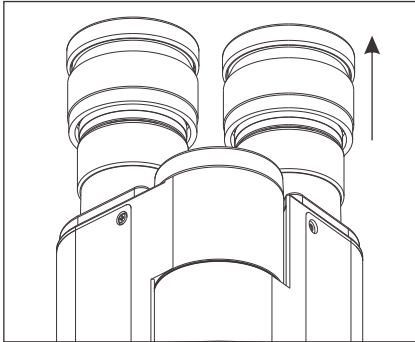

Fig. 3.1
2. Insert desired eyepieces in empty ocular tube. (Fig. 3.1)